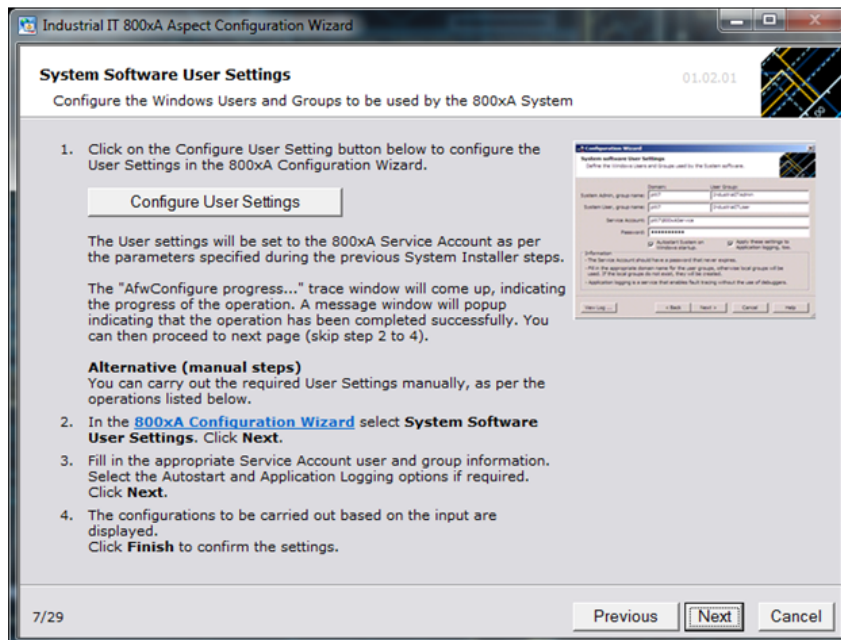

Figure 41. Configuration Instructions Example
2. Follow the instructions and perform the task. The buttons in the dialog box can be used to open relevant aspects. Make sure to perform the tasks in the described order; that is, complete the task in one dialog box before continuing with the next. Figure 41 shows an example of configuration instructions.
After clicking **Configure User Settings** in Figure 41 and the process completes, go to: